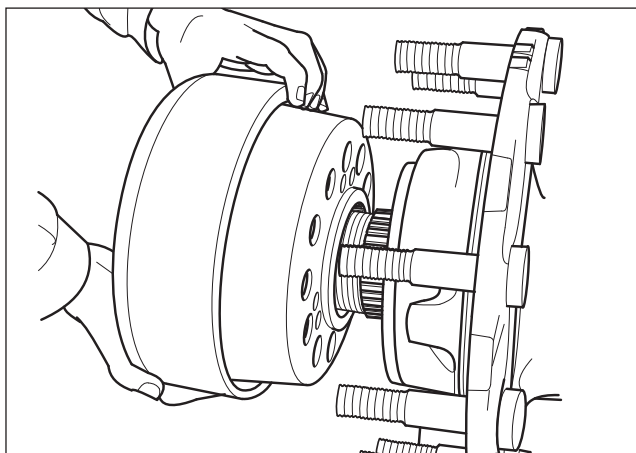

Fig. 2.11
3. Remove the ring gear group. - Fig. 2.11